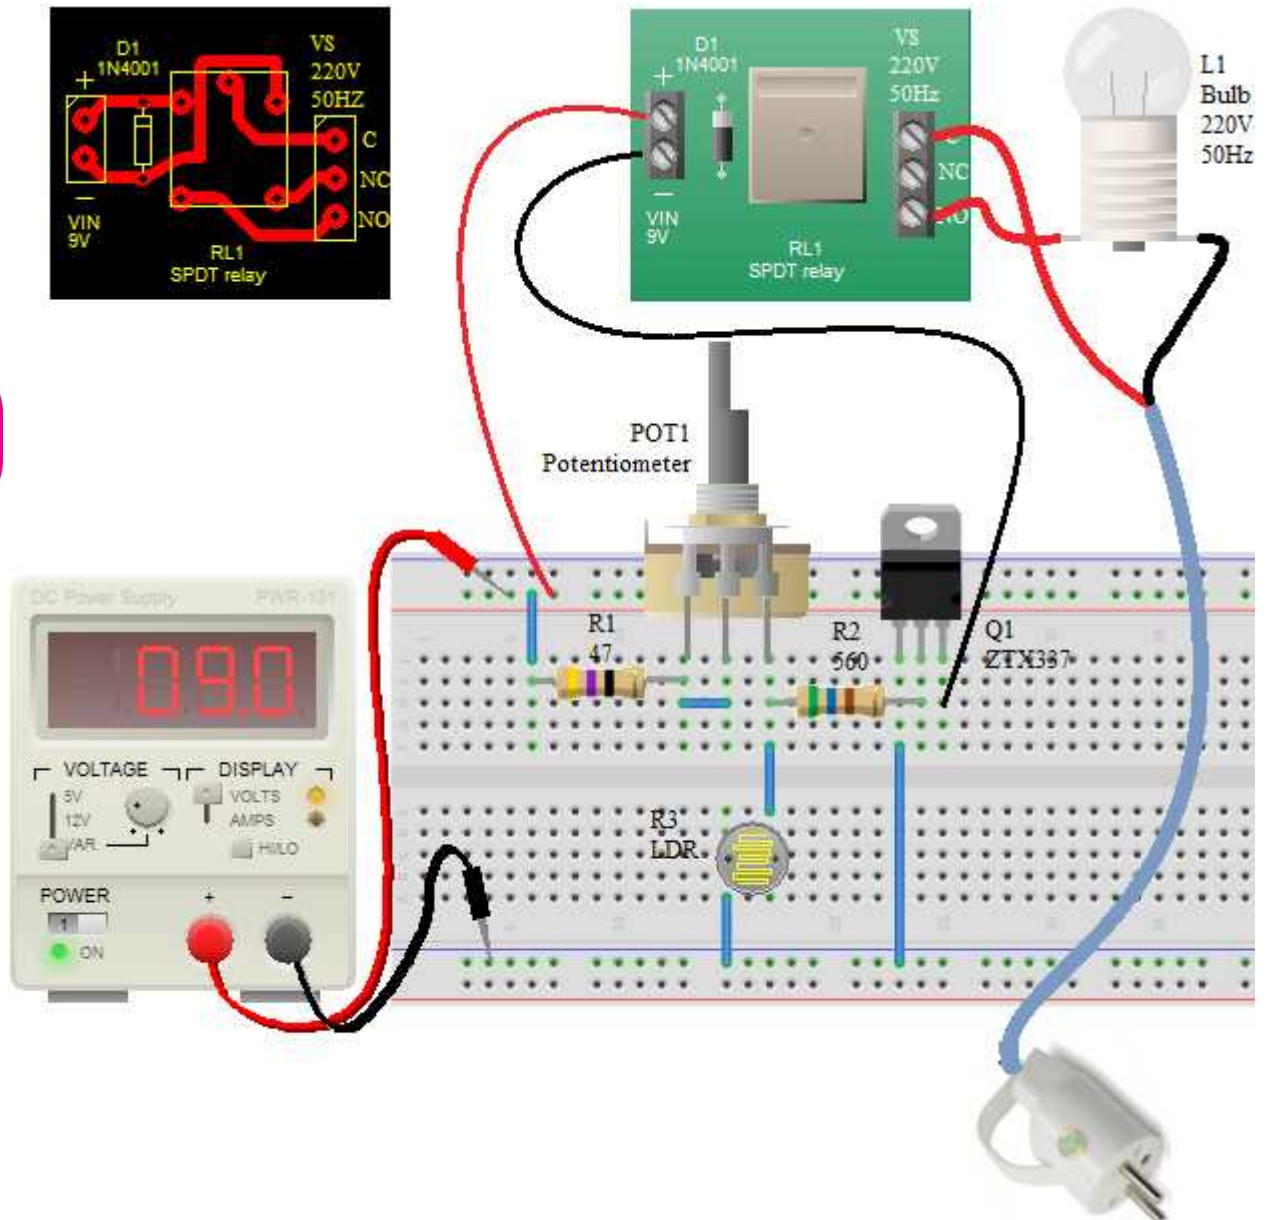

Figure 6-18: Transistor as switch controlled by the light sensor to drive a relay, circuit connection
1. Connect the circuit as illustrated in figure 6-18.